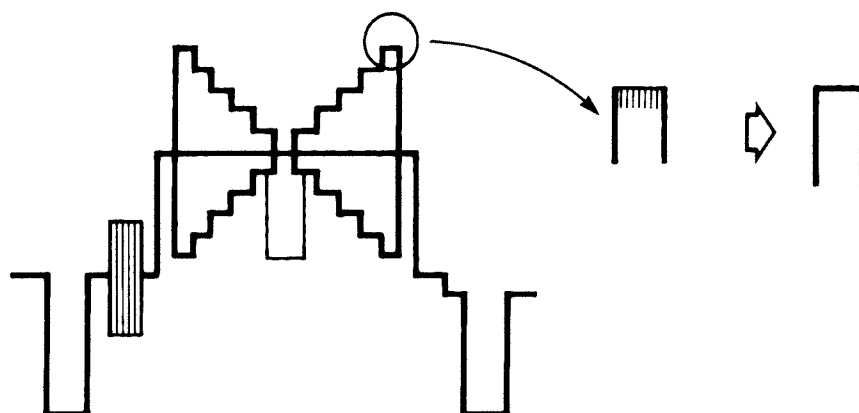

Figure 5-41. Adjusting for Minimum Carrier Leak
STEP 7 Observe encoded output on waveform monitor. Adjust potentiometers R211, and R411 (R, B GAIN 1) for minimum carrier leak at top portion of gray scale. See Figure 5-41.